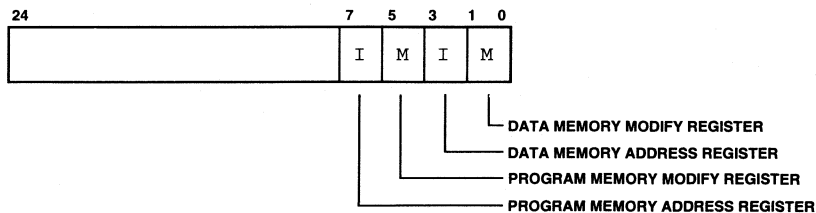

Figure 5. Indirect Addressing In ADSP-2105
With indirect addressing, the address in an I register drives either the data or program memory address bus. While the memory is being accessed, the address is simultaneously updated with the contents of any of the modify (M) registers, as shown in Figure 5. The specific pairing of I and M registers is up to the programmer. For example, I0 and M3 could be specified in the instruction as in